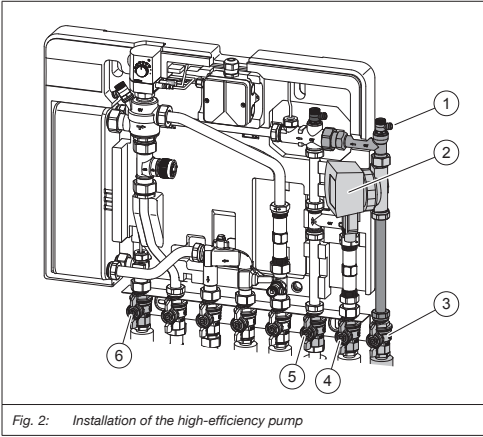

Fig. 2: Installation of the high-efficiency pump
(1)	Venting valve
(2)	High-efficiency pump Wilo STAR-Z NOVA
(3)	Ball valve circulation pipe
(4)	Ball valve cold water supply
(5)	Ball valve cold water outlet
(6)	Ball valve hot water outlet
- Close the ball valves (3), (4), (5) and (6) (see Fig. 2).
- Open the venting valve to depressurise the section of the system (see Fig. 2 (1)).
The arrow on the body indicates the flow direction. Install the pump in such a way that the arrows points to the venting valve (see Fig. 2 (1)).